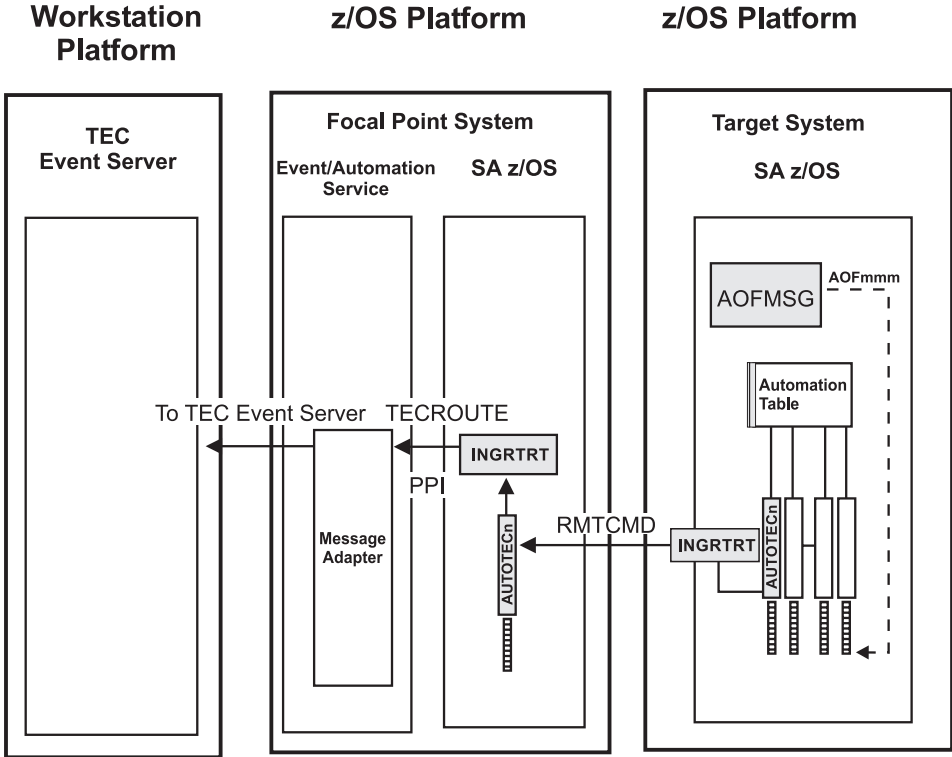

Figure 8. Distributed Configuration: NetView Event/Automation Service Remote to the SA z/OS Source of Messages
- *distributed configuration*: The message adapter or alert adapter is running on an z/OS system different from the one on which SA z/OS is running and issuing messages and alerts. In this scenario, the z/OS system running the adapters must be the SA z/OS automation focal point system. Such a configuration for message forwarding is illustrated in Figure 8 on page 45.